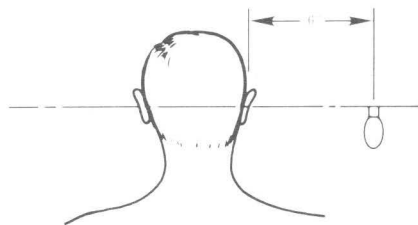

Figure 3-9. Interior vehicle SLM location.
4. Place the microphone 6 in. (150 mm) to the right of the driver's right ear as shown in Figure 3-9.